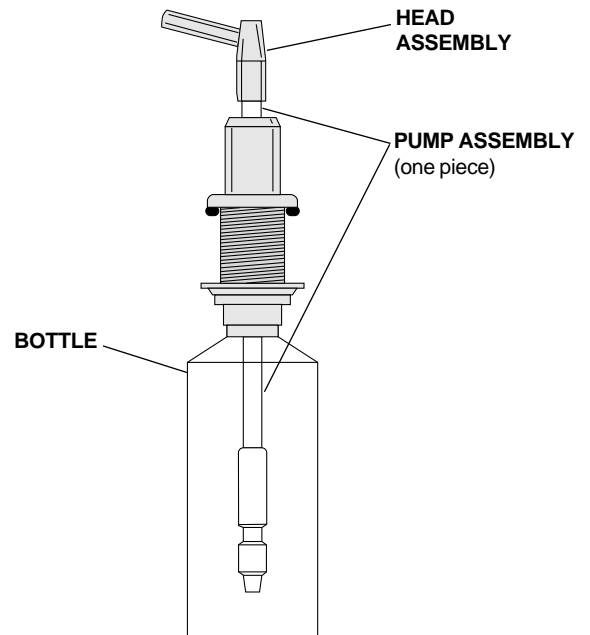

FIGURE 37
1. Screw the bottle onto the pump assembly and press the head assembly onto the pump assembly (see *Figure 37*).